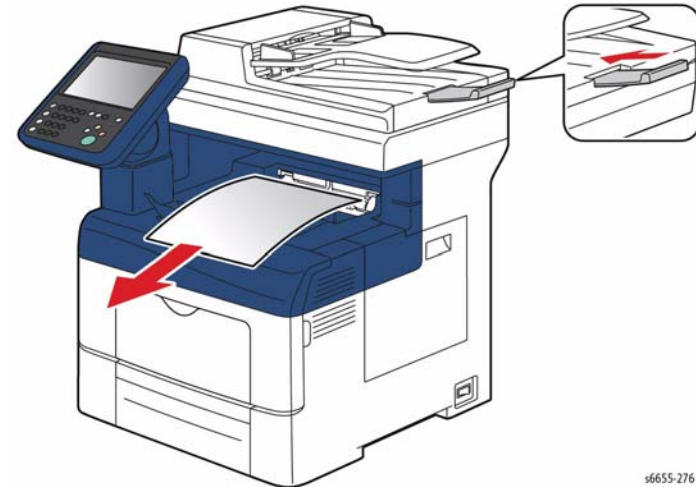

Figure 1 Close the Output Tray Extension
5. Remove any paper or other media from the output tray. If the output tray extension is extended, close it, Figure 1.